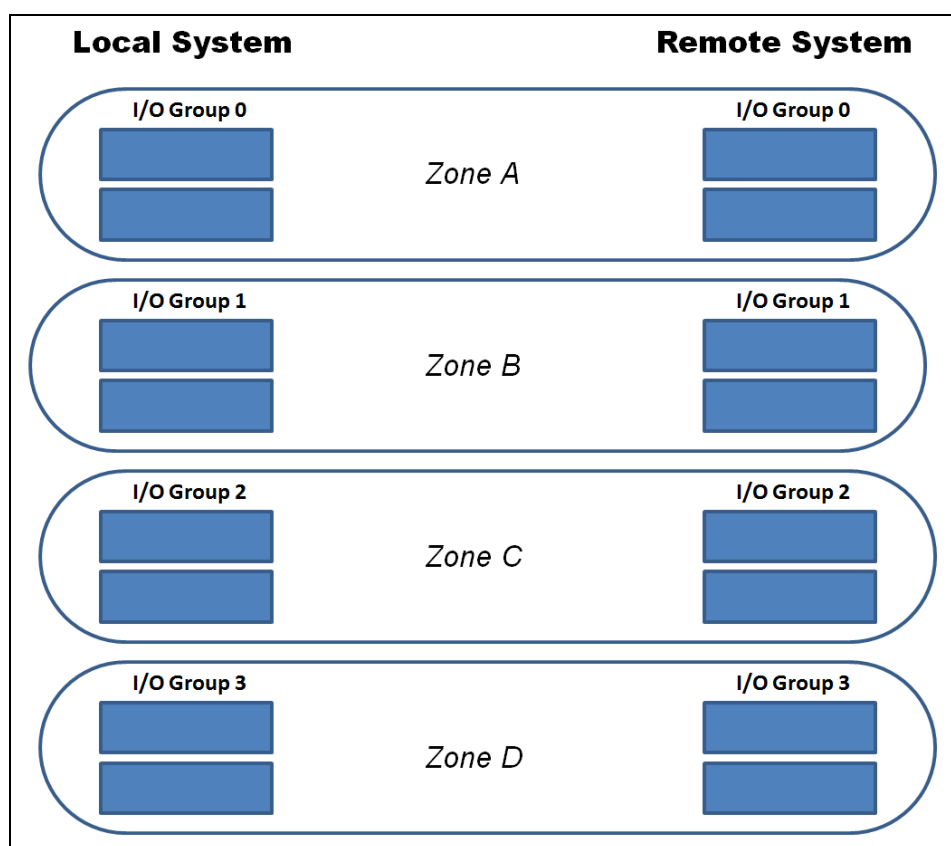

Figure 6-20 Zoning scheme for >80 ms remote copy partnerships
- ▶ For Metro Mirror and Global Mirror configurations where the round-trip latency between systems is more than 80 milliseconds, apply SAN zoning to provide separate intrasystem zones for each local-remote I/O group pair that is used for replication, as shown in Figure 6-20.